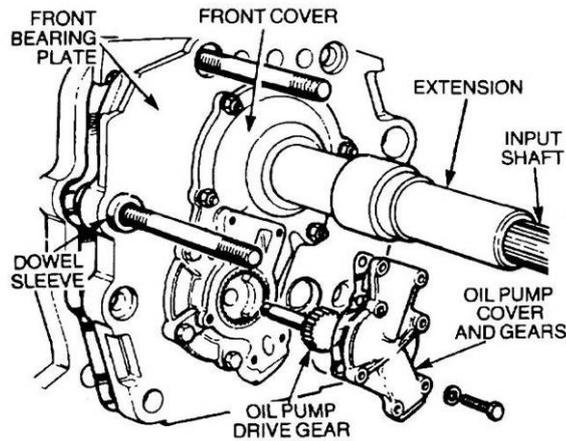

Figure 163 Removal of the Oil Pump and Drive Gear
- k. Position the transmission with the front end uppermost. Remove the bolts, locknuts and washers retaining the front cover and oil pump. Remove the oil pump cover and gears, and remove the oil pump drive gear (Figure 163).